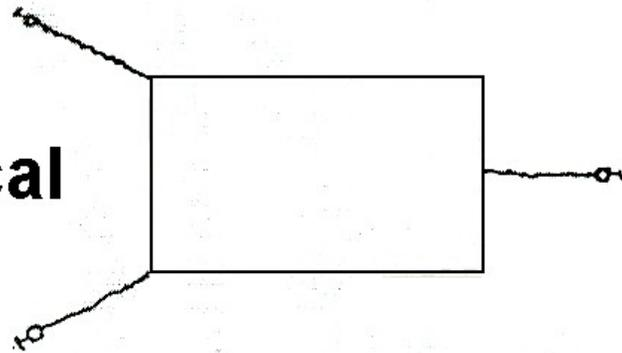

Figure 3-113
2. Direct the attachment of MB1 and MB2 tie-down devices in a symmetrical pattern and in pairs (see Figure 3-113).